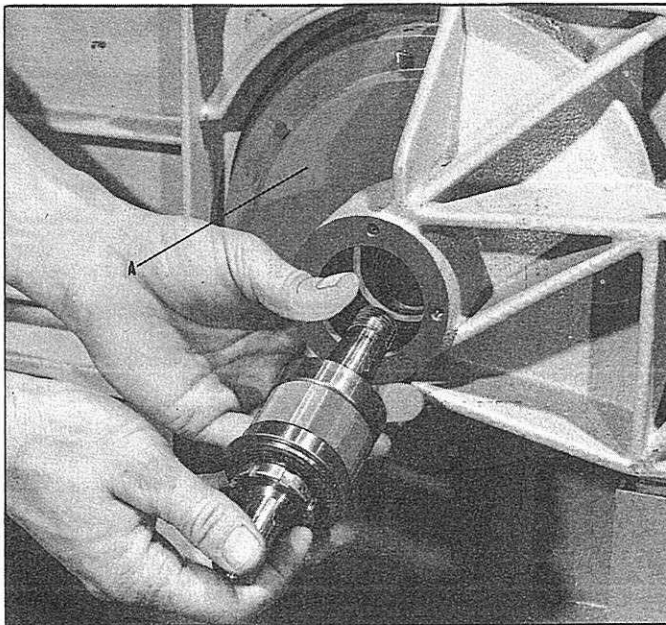

Fig. 30.
10. Remove the shaft and bearing assembly as shown in Fig. 30. It may be necessary when removing the shaft and bearing assembly to gently tap the shaft at the tapered end with a piece of wood.
11. The cutterhead (A) Fig. 30, may also be removed by sliding it down through the opening in the rear of the fences.